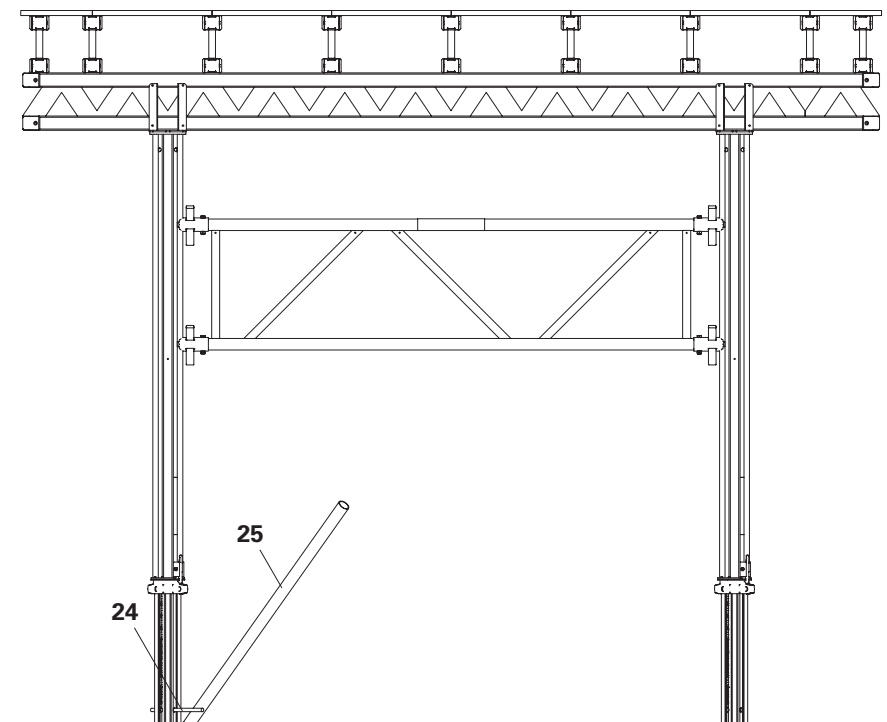

Fig. B3.02
1. Insert the reinforcement bar Ø 16 mm (24) into the lower holes of the MULTIPROP MP.
2. Move the slab table with a second Ø 16 mm reinforcement bar (24) or pole (25). (Fig. B3.02)